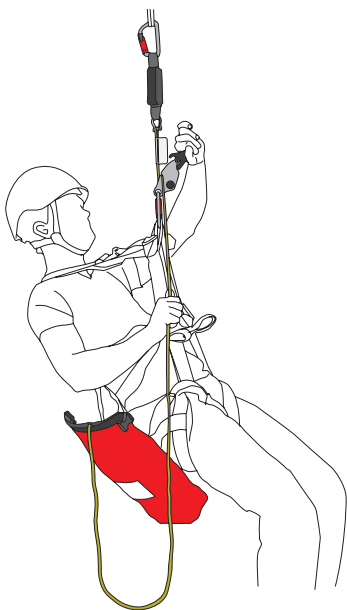

Fig. 2
3. Attach the descender to a front attachment point of the harness fig. 2 – (low EN813 attachment point on the harness is recommended) with the karabiner. Ensure that both karabiners locked off completely.